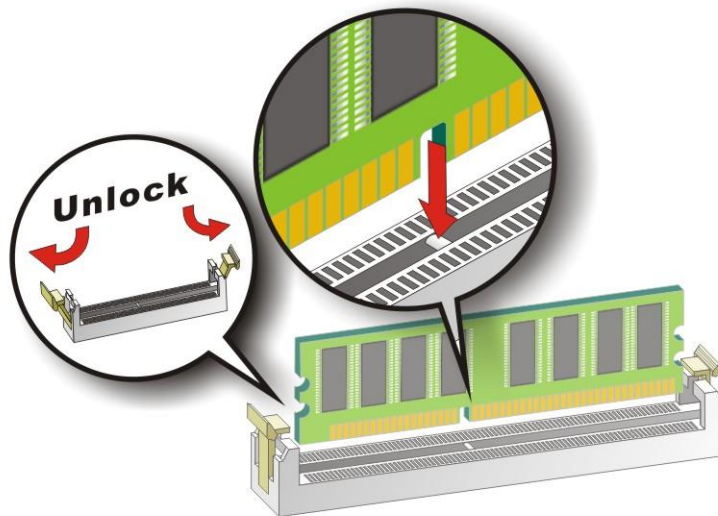

Figure 4-6: DIMM Installation
To install a DIMM, please follow the steps below and refer to **Figure 4-6**.
**Step 1: Open the DIMM socket handles.** Open the two handles outwards as far as they can. See **Figure 4-6**.
- Step 2: Align the DIMM with the socket.** Align the DIMM so the notch on the memory lines up with the notch on the memory socket. See **Figure 4-6**.
- Step 3: Insert the DIMM.** Once aligned, press down until the DIMM is properly seated. Clip the two handles into place. See **Figure 4-6**.